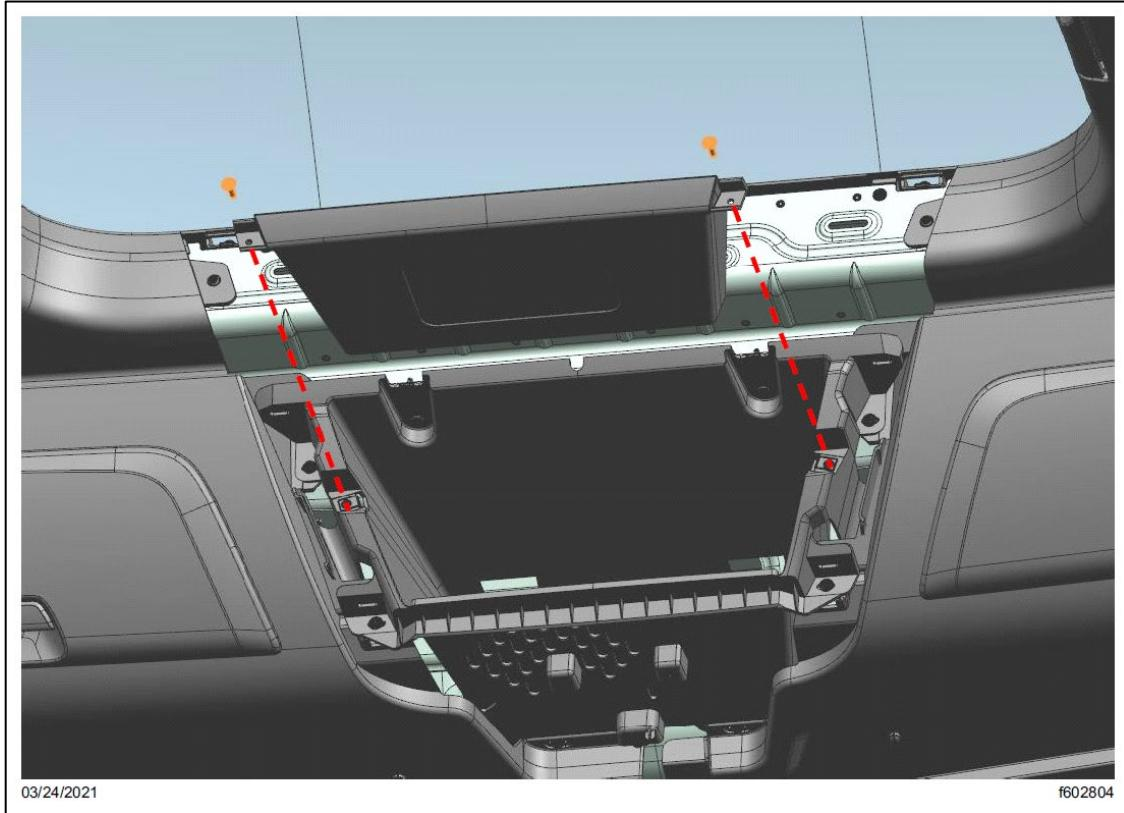

Fig. 46, Sleeper Cab Center Shelf Removal
8.3. Remove the two fasteners that attach the center shelf to the center storage bin. Remove the center shelf. See Fig. 46.